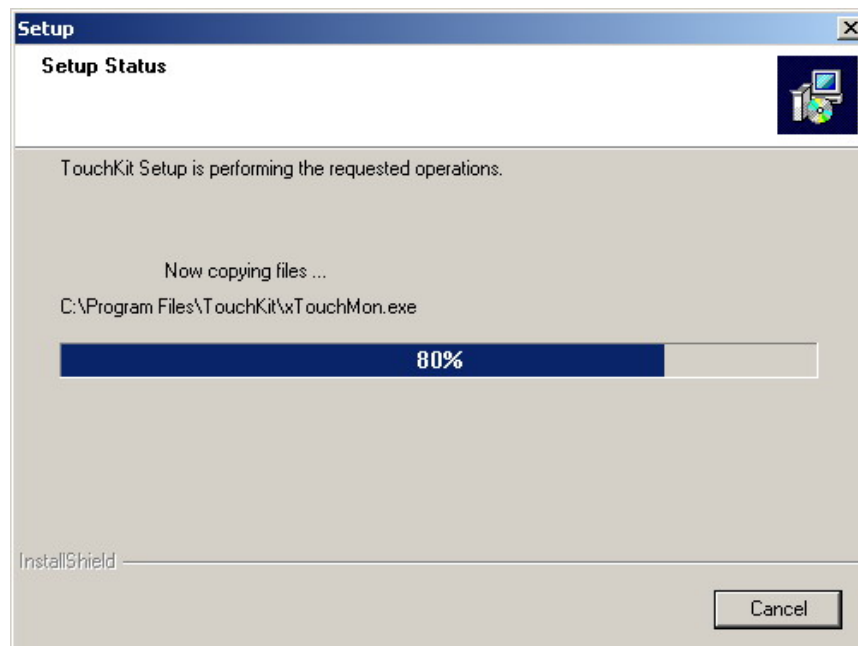

Figure C-9: Installing
Step 14: The program then starts installing (Figure C-9).